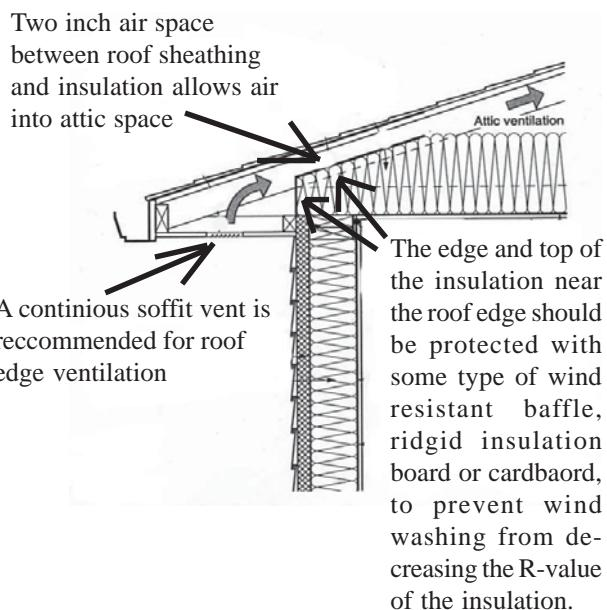

Figure 3: Attic Ventilation Details
- The fans must be operating correctly. That is they must be drawing air out of the room where they are located. Just because you have a fan in the bathroom and kitchen that makes a noise when you turn it on, don't assume that it is actually drawing air out of the house. Duct work can become clogged so that air flow is blocked. The fan may be undersized or it may just be a poor quality fan. Camroden Associates developed two simple tests to check how well an exhaust fan is working. The first is a visual test. Puff a cloud of baby powder toward the fan grill from about 6 inches away. If the fan is working correctly the powder should be drawn into the grill. If it is sucked into the center of the grill and blown back out at the grill edges, the exhaust duct is blocked. If the powder simply hangs in the air and is not drawn into the grill, the exhaust fan is not working. Figure 3 on page 5 provides directions on how to make a simple device to measure exhaust fan air-flow rates.
between soffit (roof edge) and roof peak areas. Correctly installed soffit ventilation allows air into the attic area, but also protects insulation from the negative effects of wind washing (see Figure 3).